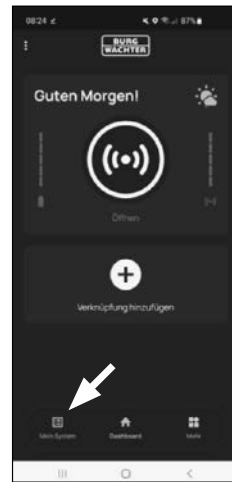

Fig. 4
- 7 The *BURGsmart* app main screen appears. Open the "*My System*" menu at the bottom left (Fig. 4).